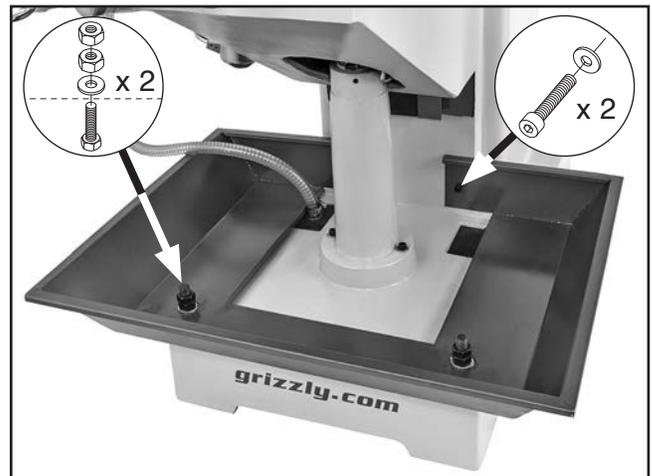

Figure 13. Splash pan installed.
6. With other people steadying mill to keep it from swaying, remove shipping pallet, then remove (2) hex bolts, (2) flat washers, and (4) hex nuts from pallet.
7. Remove (2) pre-installed cap screws and flat washers from column base (see **Figure 13**).
8. Position splash pan over mounting holes at front of base and threaded holes at base of column, then secure splash pan as shown in **Figure 13**.